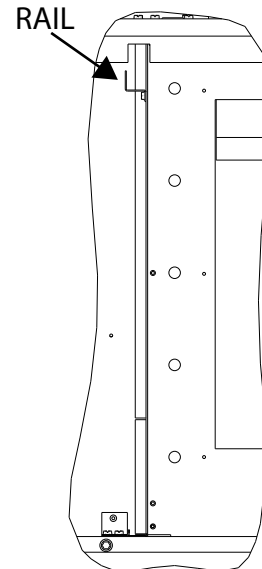
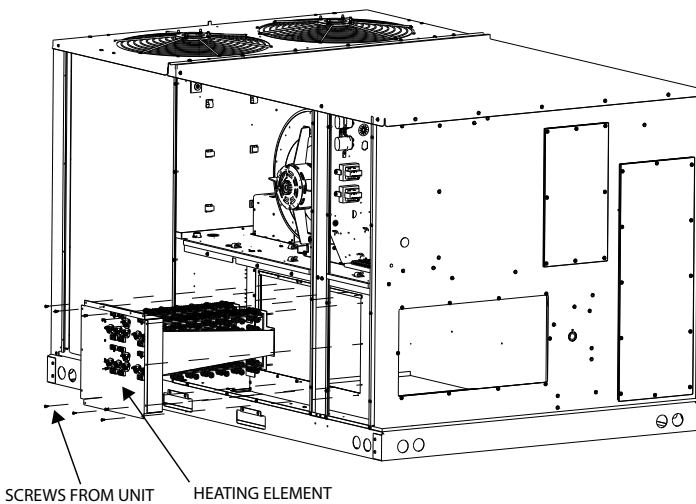
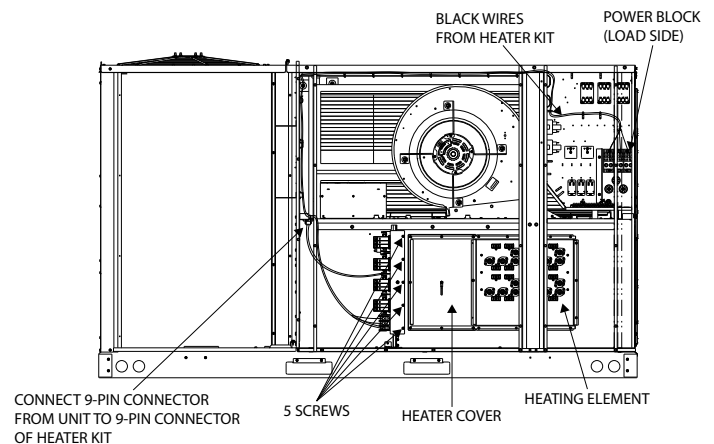

Figure 5
Figure 3
Figure 6
5. Insert heating element part of the heater kit (Figure 2) in the heater box and slide it all the way to the right (Figure 3). Ensure the elements are positioned in the retaining bracket as shown in Figure 4. Install the heater kit using the screws from heater box cover and re-install the left heater cover (small) as shown in Figure 6. It may be necessary to remove the horizontal supply cover to observe the bracket. The right heater box cover can be discarded.
6. Install electric panel (Figure 2) to the left side of the heater box by inserting through the rail (Figure 5) and using 5 screws supplied with this IO (Figure 6).
- Route all leads through the blower deck and into the control box as shown in Figure 6.
9. Connect the plug to the mating 9-pin plug attached to heater kit (Figure 6).